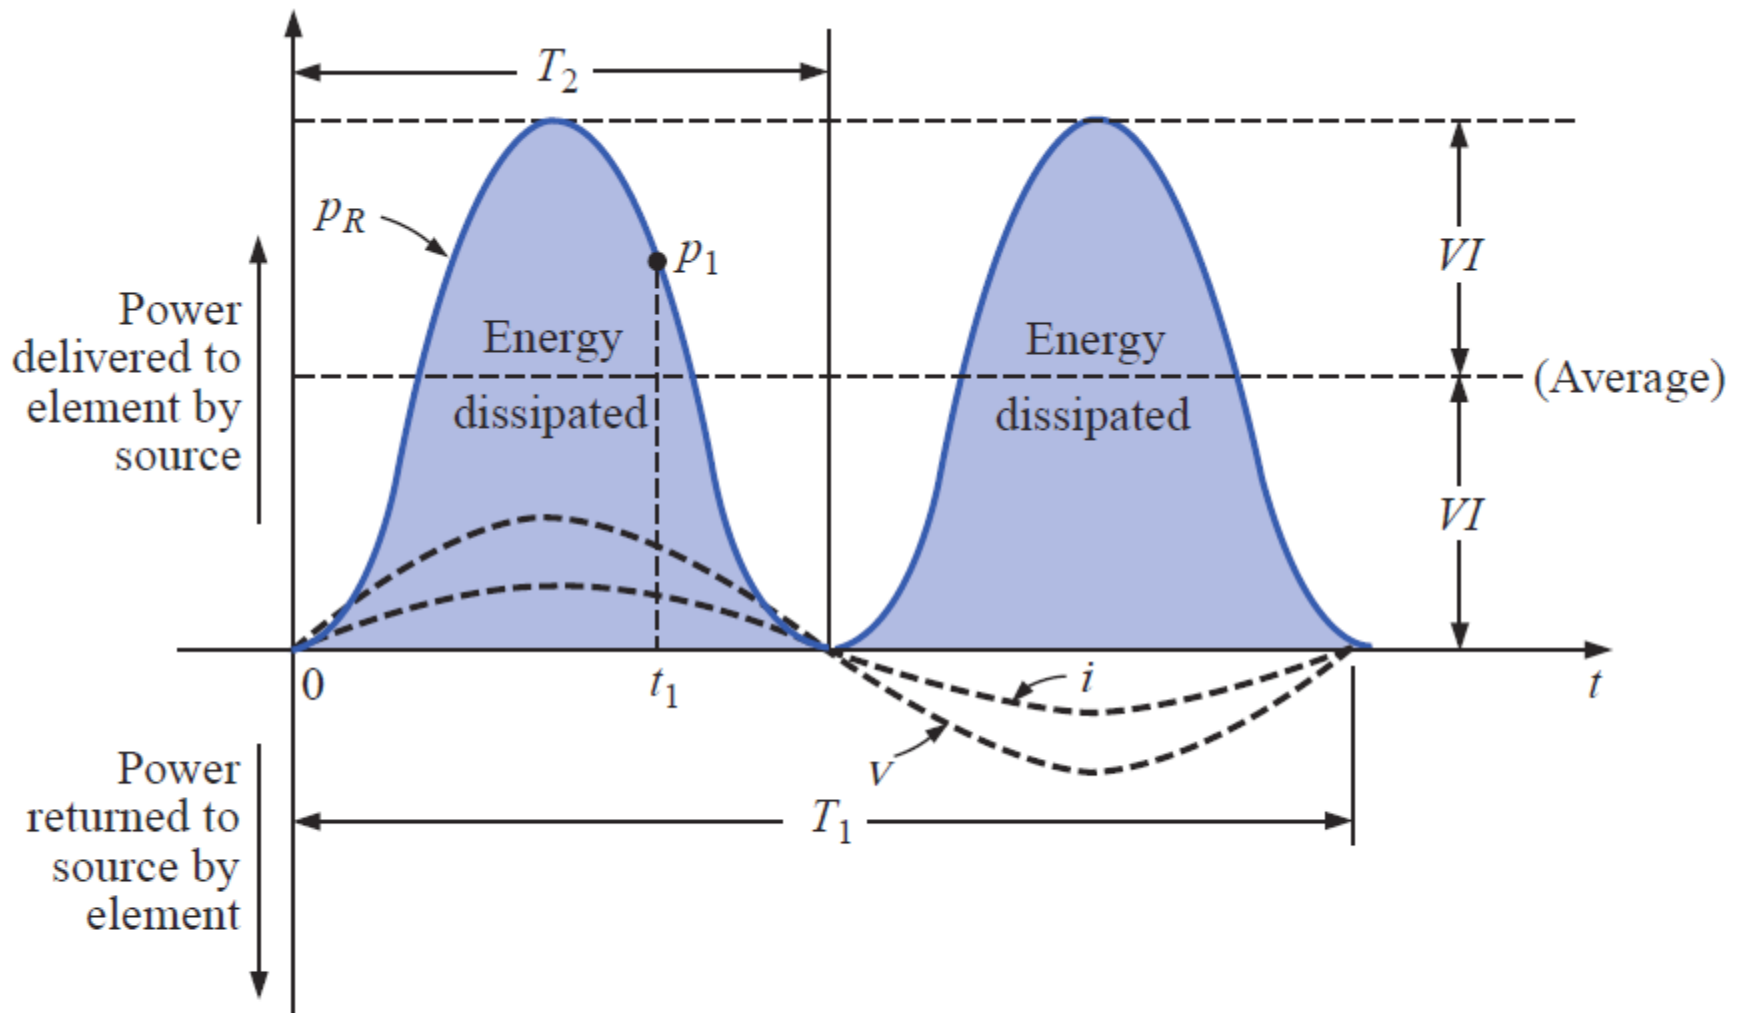

FIG. 19.3
- The power p_I dissipated by the resistor at time t_1 can be found by simply substituting the time t_1 into the equation of the power, as indicated in Fig. 19.3.